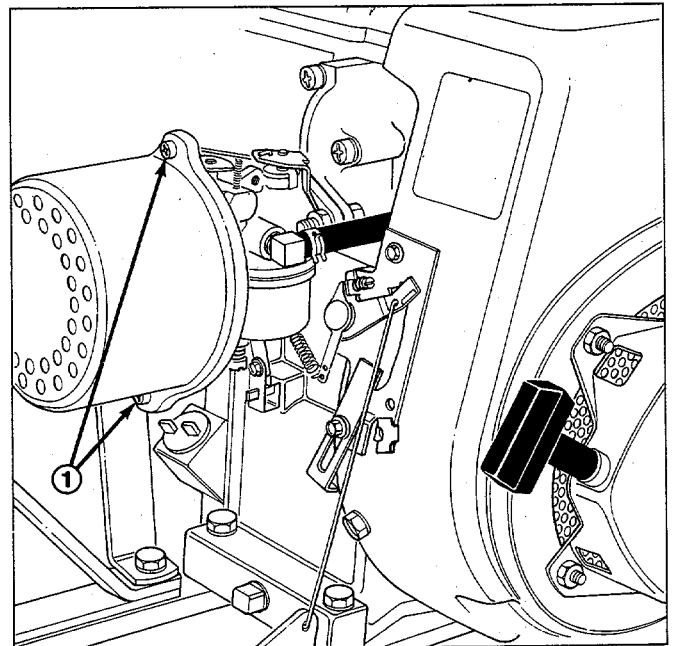

Figure 39
1. Loosen two COVER SCREWS (Fig. 39). (These need not be removed completely).